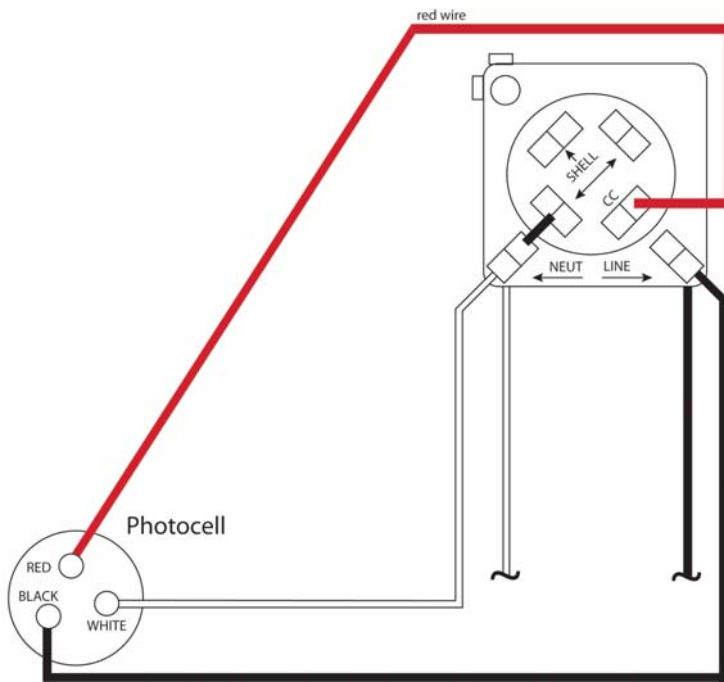

Figure 5. Wiring diagram for photocell and Bracket Kit socket.
3. Connect the three wires from the photocell to the socket. Connect the red wire to the base of the socket at the position labeled CC. Connect the white, or neutral, wire to a tab under the neutral terminal. Connect the black, or line, wire to a tab under the line terminal. The flat spade connectors on the 16 gauge wire should connect easily to the tabs on the base of the socket. Figure 5.